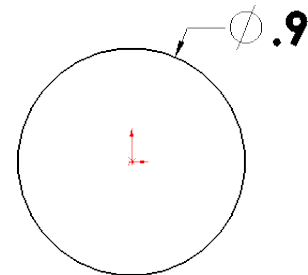

Fig. 2
Step 3. Click **Circle**  (S) on the Sketch toolbar.
Step 4. Draw **circle** starting at the Origin , **Fig. 2**.
Step 5. Click **Smart Dimension**  (S) on the Sketch toolbar.
Step 6. Dimension circle **diameter .9** as shown in **Fig. 2**.